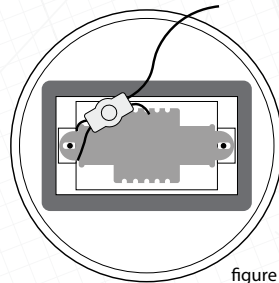

figure 1
- Attach the steel safety wire loop to the transformer mounting leg. (see figure 1)